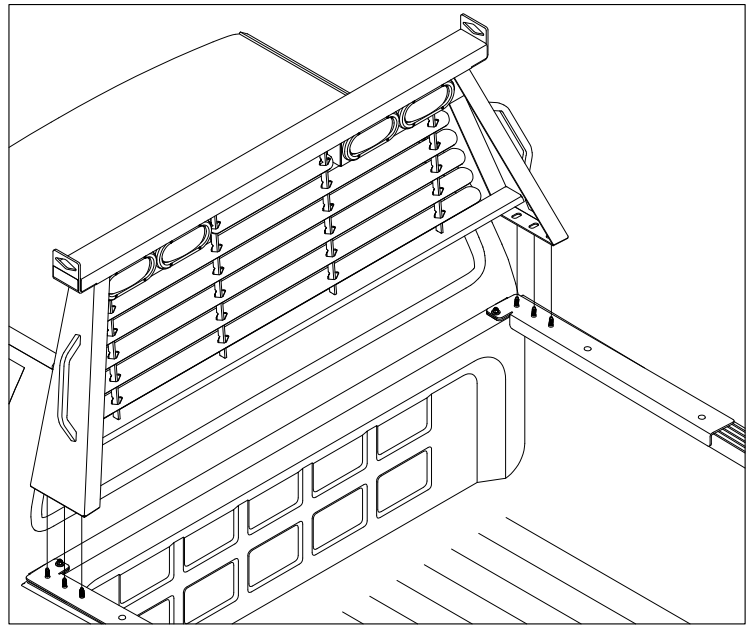

FIGURE B1
- 4. Spacer (Optional).** If your truck is equipped with plastic bed caps a small spacer has been provided for use under the Bed Protectors, see figure B1. If your truck has no plastic bed Caps then the Spacers may be discarded.
- 1. Install Cab Protector.** Position the slots on the bottom of the cab protector over threaded studs on the bed protectors, See figure B1. Fasten the cab protector with the provided 3/8" Large flat washers, lock washers, and finish nuts. Do not fully tighten. Make sure the cab protector is centered with the truck as viewed from the rear.